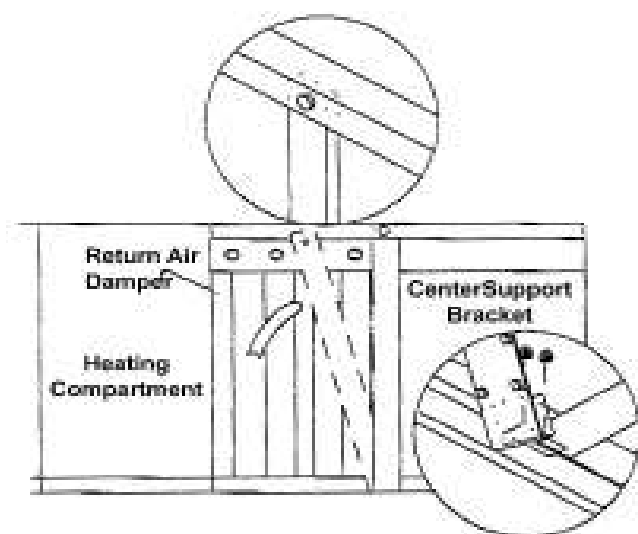

Figure 10 - Re-installing the center support bracket
9. On 20 and 25 ton units: install the two support brackets previously removed. See Figure 10.